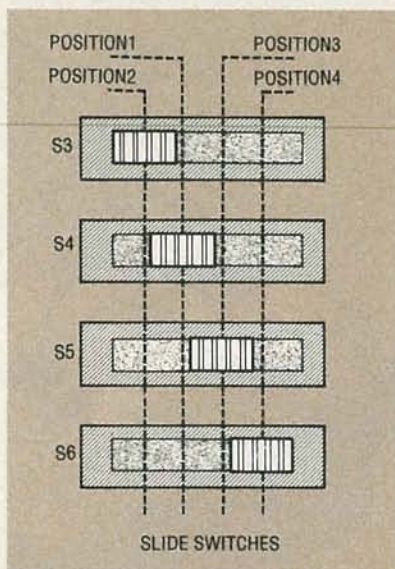

FIG. 9—FOUR POSSIBLE ACTUATOR SETTINGS of the two-pole, four-throw slide switches S3 to S6 that adapt the TVS250 to a specific phone.
5) Caution: Be sure that none of the actuators of the four switches S3 to S6 are in the same position (see Fig. 9). If the jumper post shorting clips remain in place and two of the switches are in the same position, the TVS250 unit will malfunction. Moreover, power indicator LED1 (green) might not light. The removal of the four shorting clips prevents this.
6) Move S1's actuator ON. The green LED1 should light. Move S2's actuator back and forth until the red LED2 turns on and off. When red LED2 is illuminated, the scrambler is in the scrambled mode. Before continuing, be sure red LED1 is off (normal mode). When configured properly, the actuators of switches S3 to S6 will be in one of four possible positions as shown in Fig. 9. Remember that no switch actuators should be in the same position. Switch S3 and S6, which control handset speaker connections, should be adjusted first. To verify the proper switch settings, listen to the handset speaker, listen to the phone's dial tone.